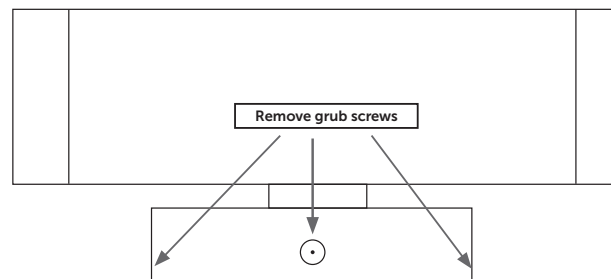

Fig 1
- Remove the 3 grub screws securing the base plate of the luminaire (see Fig 1).